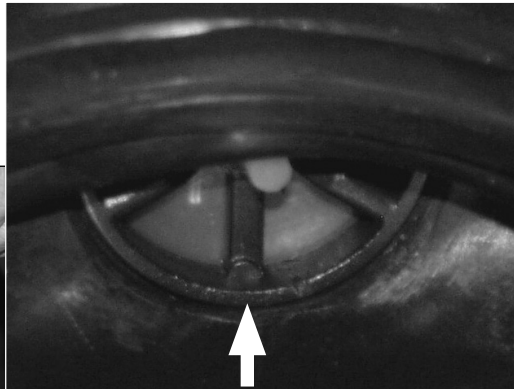

Figure 5a: Correct
5. Turn the assembly back over and work purge valve and body until firmly in place. Take notice that the purge valve and body are seated correctly. See figure 5a and 5b.